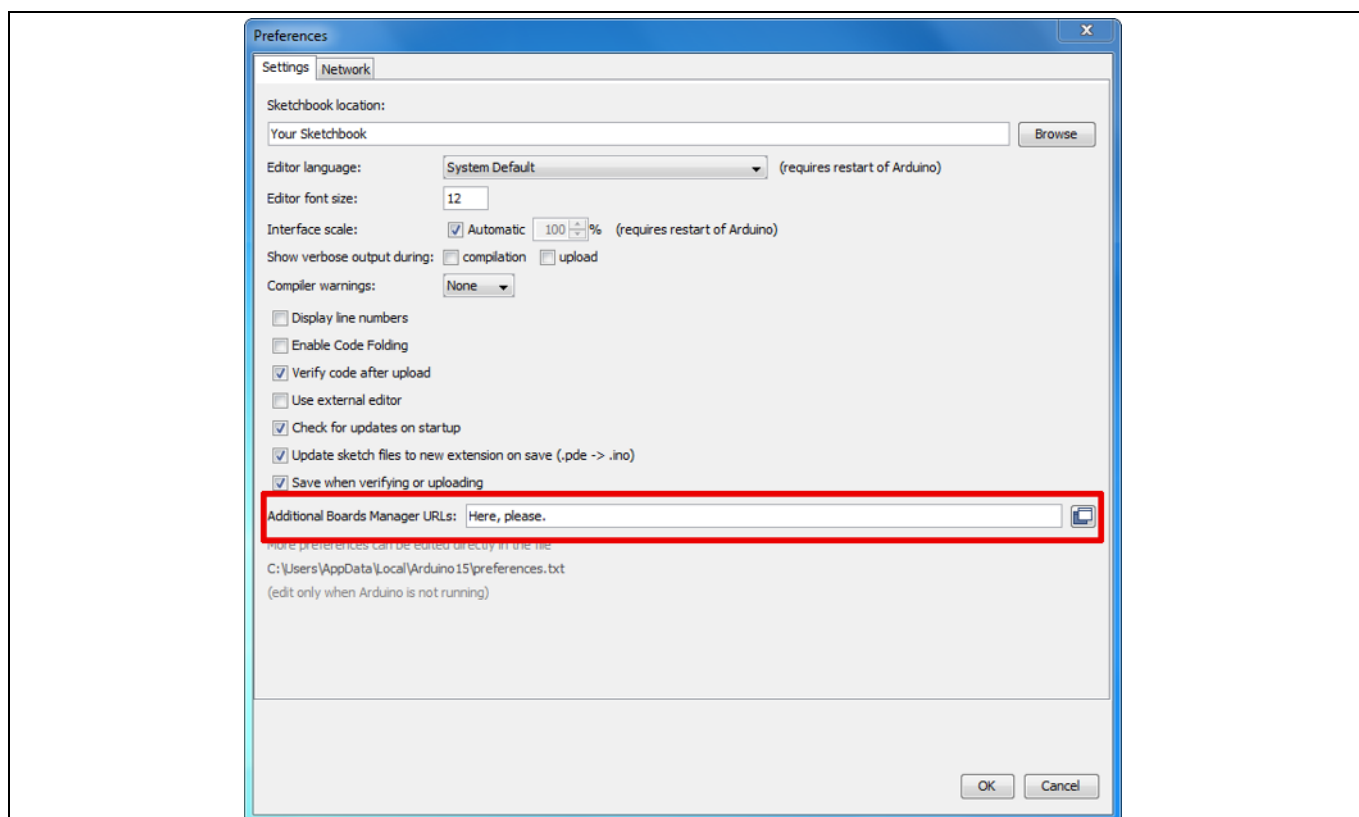

Figure 8 Entering the location from which the package can be downloaded
3. Copy the following URL into the "Additional Boards Manager URLs" field (Figure 8):